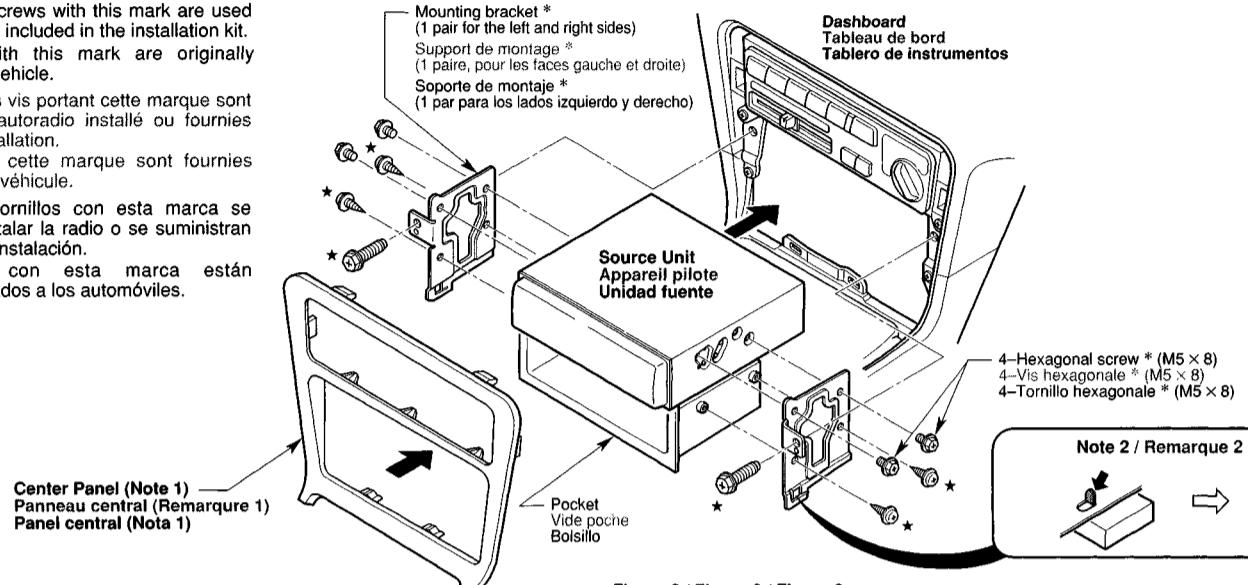

Figure 6 / Figure 6 / Figura 6
This unit is designed for fixed installation in the dashboard. If the vehicle is equipped with a factory-installed radio, install the source unit with the parts and screws marked (\*). (Figure 6) If the vehicle is not equipped with a factory-installed radio, obtain an installation kit to install the source unit in the following procedure.
1. Secure the mounting brackets to the chassis as shown in Figure 6. Holes are pre-tapped for TOYOTA and NISSAN vehicles; modification, such as drilling new holes, of the mounting brackets may be required for other models.